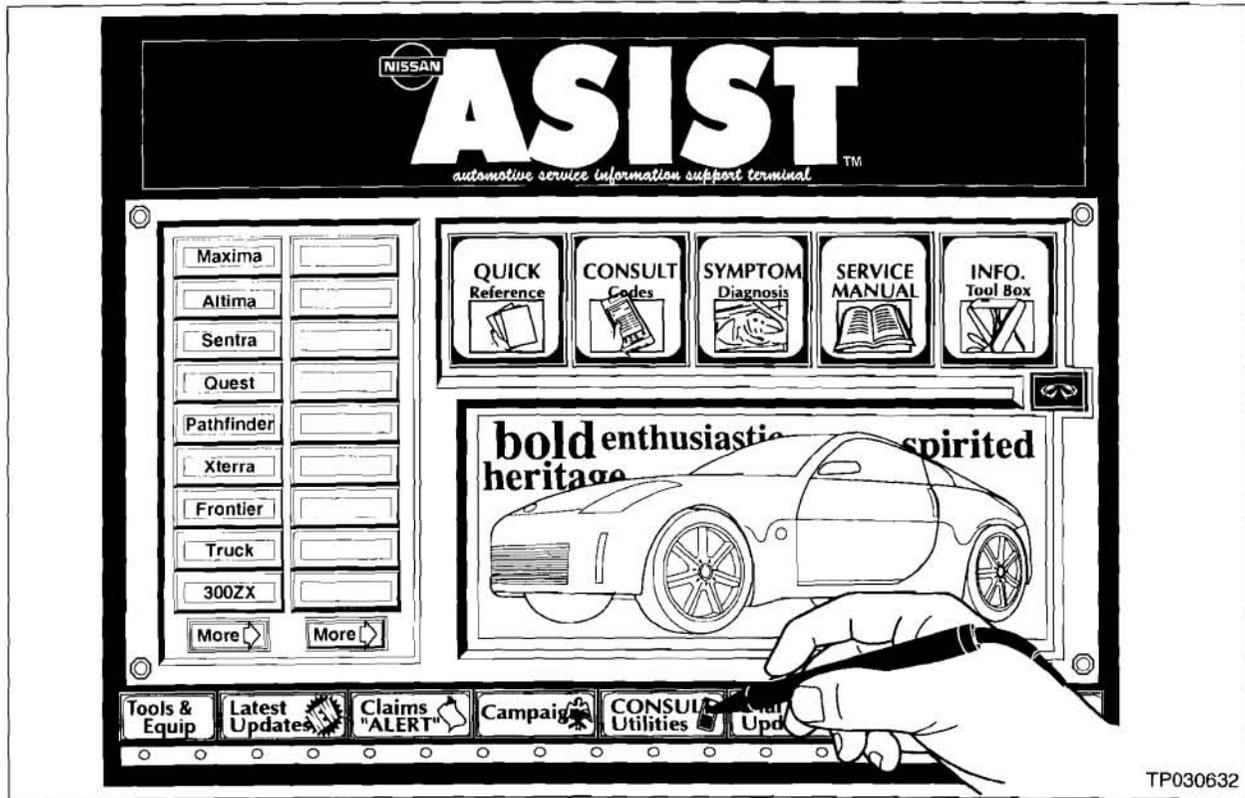

Figure A4
- From the ASIST PC main menu screen, select "**CONSULT UTILITIES**" (see Figure A4).